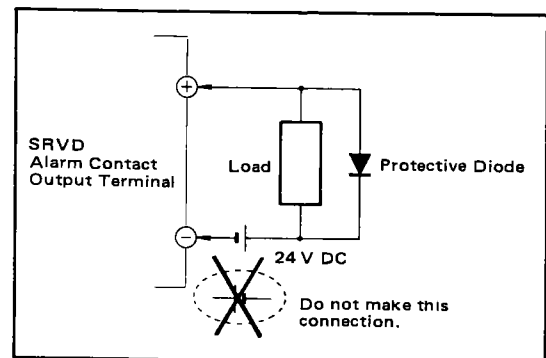

Figure 3-2. Load Connection to Alarm Contact Output Terminal.
- To drive equipment containing inductance elements such as relays, protective diodes (surge absorbers) must be connected in parallel with the loads (See Figure 3-2).